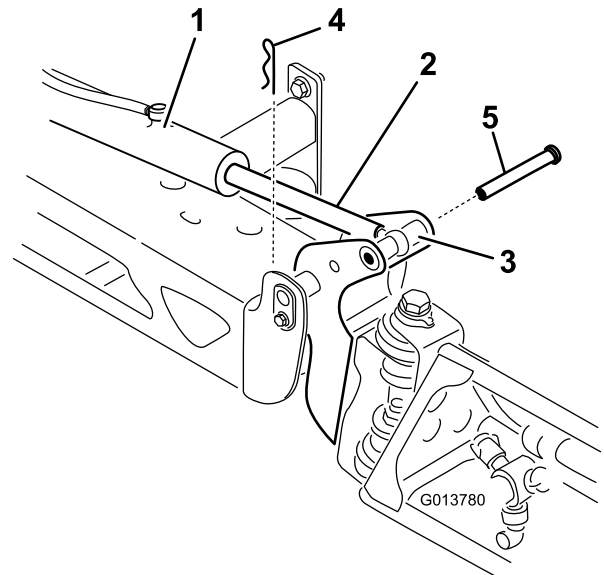

Figure 60
2. Remove the cotter pin from the pivot pin (Figure 60).
3. Lift up on the boom and remove the pin (Figure 60), and slowly lower the boom to the ground.
- While holding the boom, insert the pin through both boom pivot and actuator rod (Figure 60).